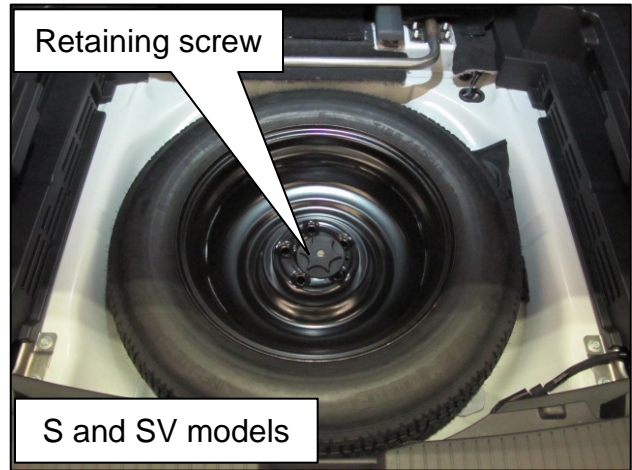

Figure 7
10. Remove the spare tire and wheel assembly (Figure 7).